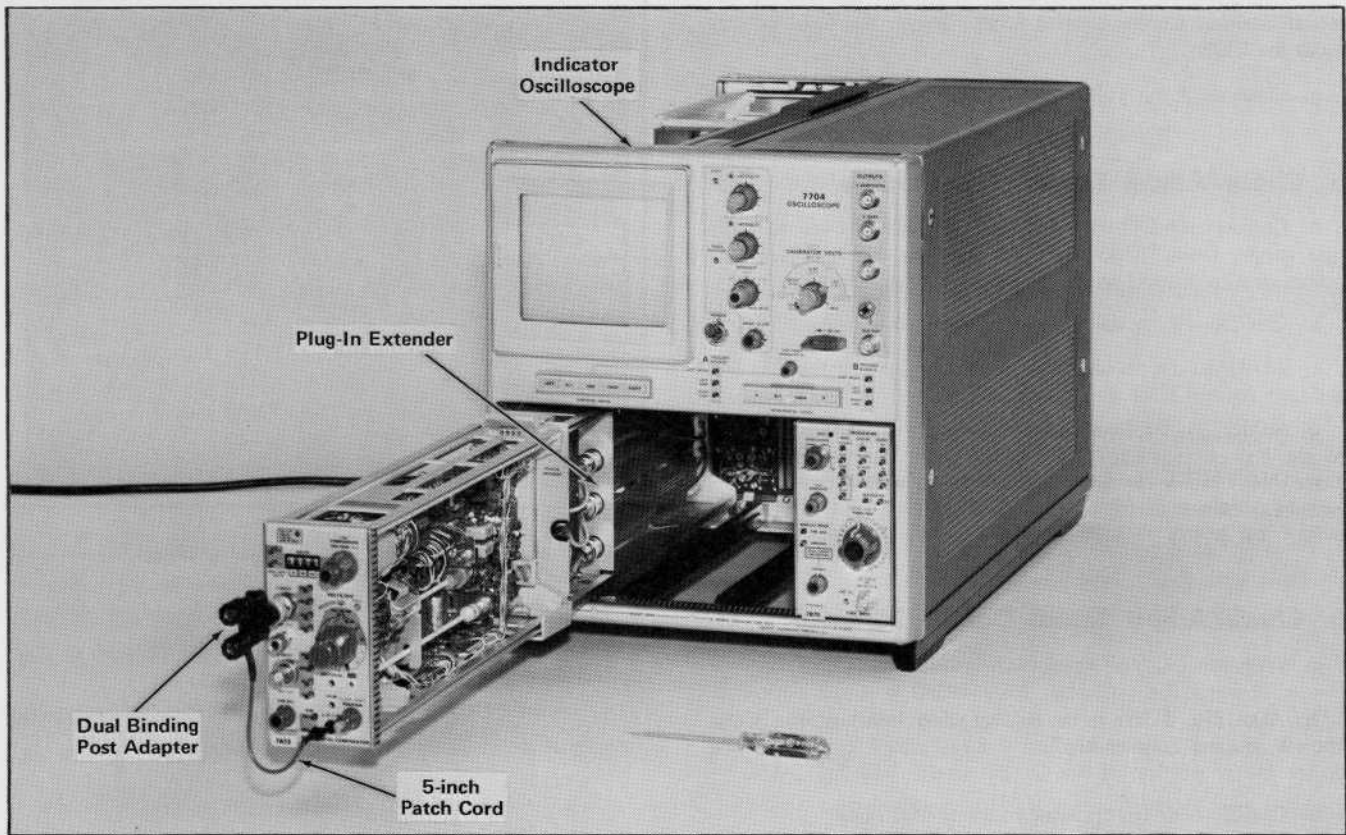

Fig. 5-5. Initial setup showing equipment required for performing steps 10 and 11. For a performance check the Plug-In Extender is not needed.
a. Test equipment setup, with connections made at completion of step 10c, is shown in Fig. 5-5.